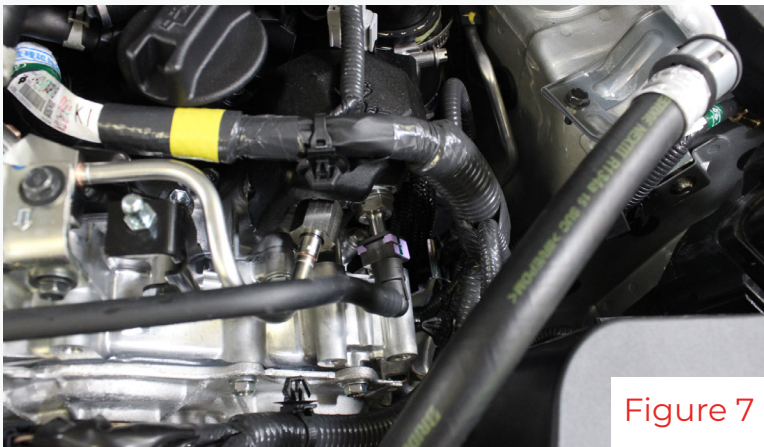

Figure 7
4. Release the purple clip and disconnect the fuel line from the HPFP(fig 7 & 8).